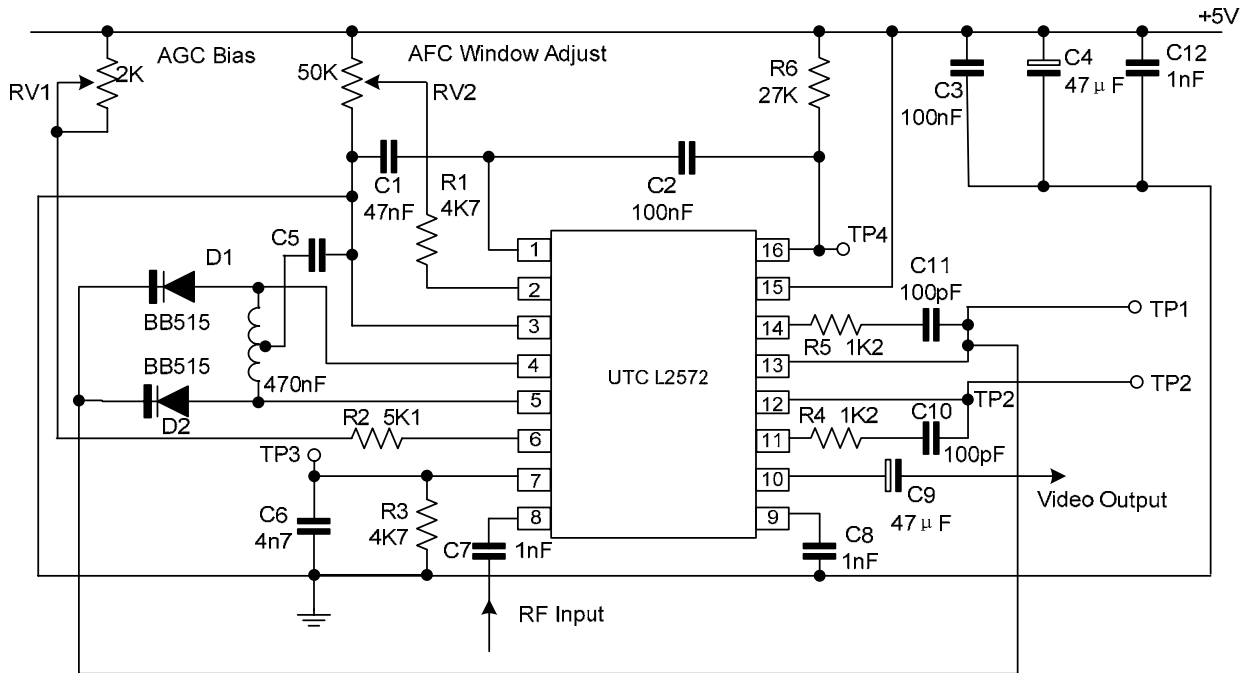
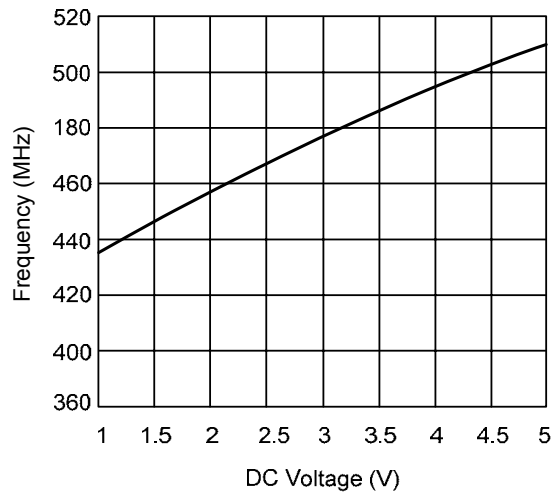
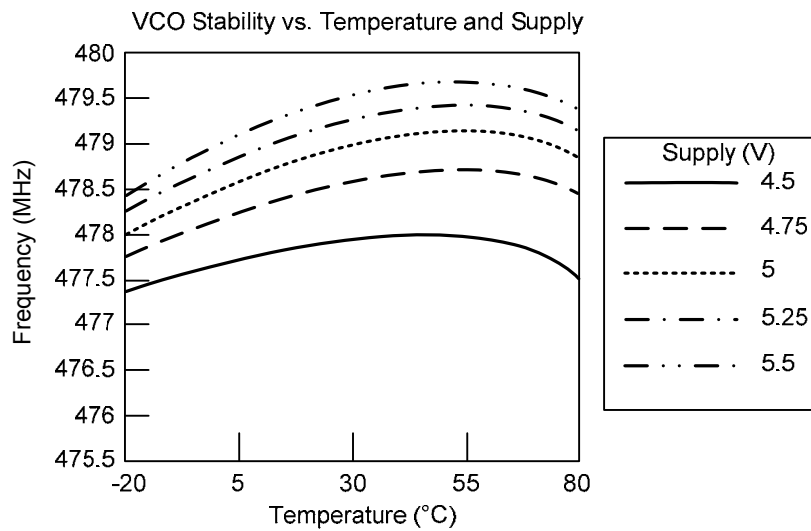

Fig. 1 Application Circuit
Fig. 3 Typical VCO Frequency vs. DC Control Voltage
Fig. 4 VCO Centre Frequency Uncompensated Temperature Stability
- Assuming ambient temperature of +20°C and operating frequency of 479.5MHz set with  $V_{CC}$  @ 5.0V. Only applies to application shown in Fig. 1 also refer to Fig. 4.
The UTC L2572 as optimized for application in satellite receiver systems and requiring a minimum external component count is a wideband PLL FM demodulator. It includes all the elements required to construct a phase locked loop circuit, with the exception of an AFC detector circuit for generation of error signal to correct for any frequency drift in the outdoor unit local oscillator, and tuning components for the local oscillator contains a block diagram and Fig. 1 contains the typical application.
The preamplifier's output is fed to the mixer section which is of balanced design for low radiation. In this stage the RF signal is mixed with which is generated by an on-board oscillator, the local oscillator frequency. The oscillator block is optimized for high linearity over the normal deviation range and uses an external varactor tuned sustaining network. Fig. 3 contains a typical frequency versus voltage characteristic for the oscillator. Fig.4 shows the typical stability that the loop output is designed to compensate for first order temperature variation effects.